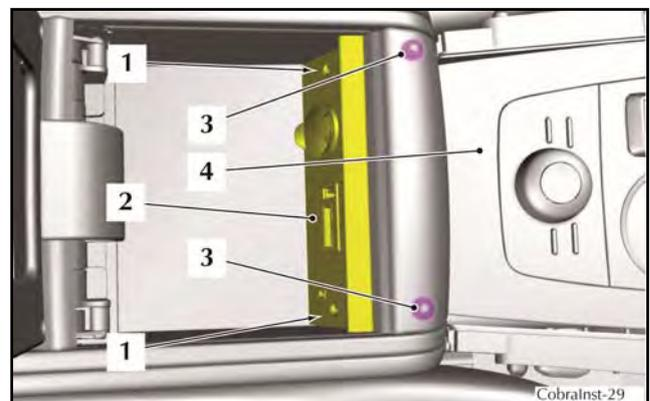

Figure 44
53. Remove the two screws (1) that attach the front auxiliary plate (2) for the rear console to the top panel assembly for the rear console (refer to Figure 44).
54. Move the auxiliary plate assembly (2), to get access to the attachment nuts (3) for the centre console panel (4).
55. Remove the two nuts (3) from the studs that attach the centre console panel (4) and the console lower sides, at the front.